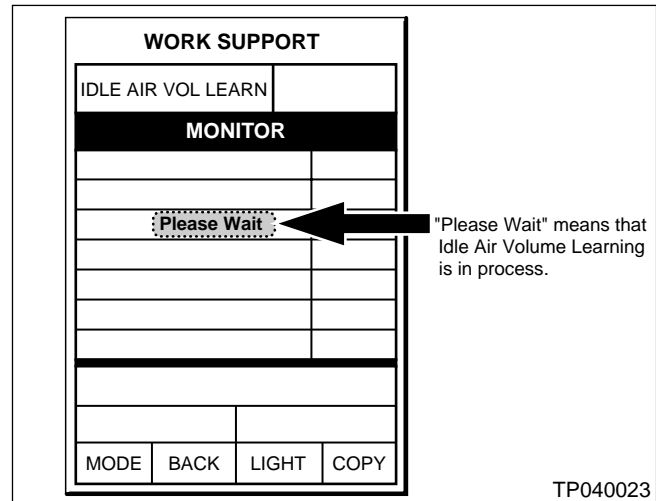

Figure 4
- CONSULT will display “Please Wait” in the center of the screen while the IAVL procedure is in process. See Figure 4.